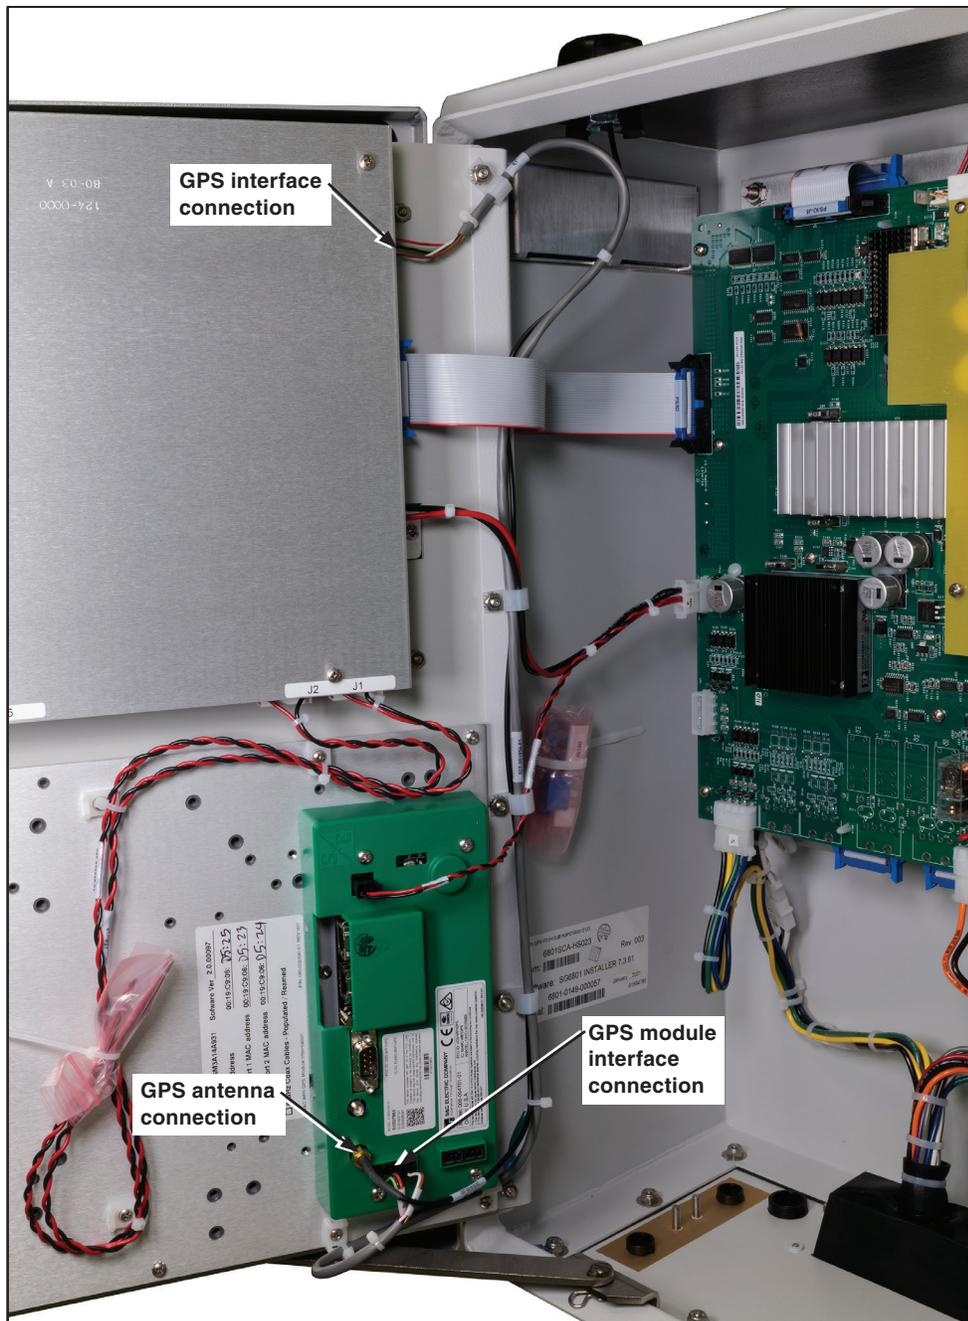

Figure 5. GPS interface connections (6801 control shown).
**STEP 11.** Connect the GPS antenna cable to the GPS connector on the back of the front panel. See Figure 5 on page 11.